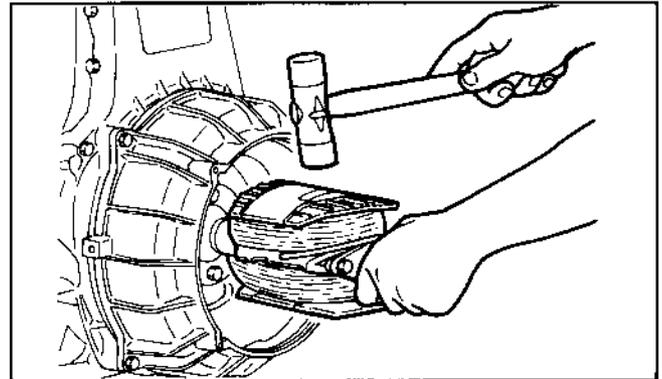

Fig. 10-23
| 8 | ROTOR | <p>(1) Insert the rotor-puller shaft into the rotor, and tighten the rotor-puller bolt until the rotor comes loose.</p> <p>If the special tool is unavailable, take the following instructions to remove the rotor.</p> <p>Lightly strike the rotor core with plastic hammer, and pull out the rotor from the tapered shaft of the engine. If the rotor cannot be taken off, strike it at different angles. (See Fig. 10-23.)</p> | Never strike on the coil. | <p>17 mm spanner</p> <p>Platic hammer</p> |